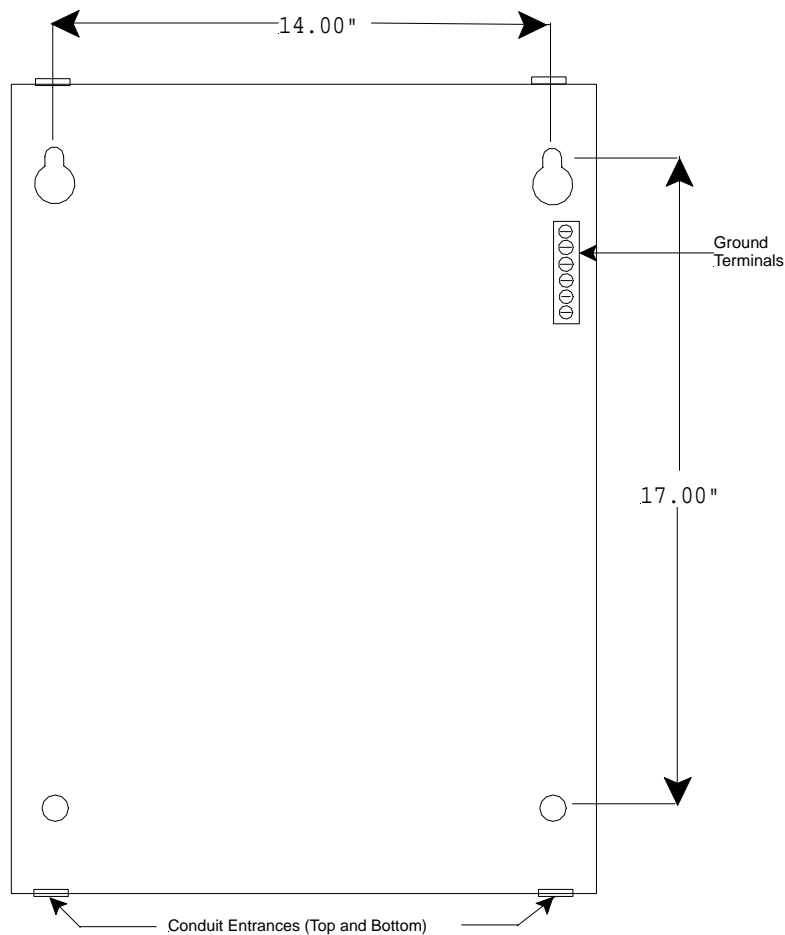

Figure 3-17
1. See Figure 3-17 on Page 3-16 for **SAFEPATH®** Panel mounting hole layout.